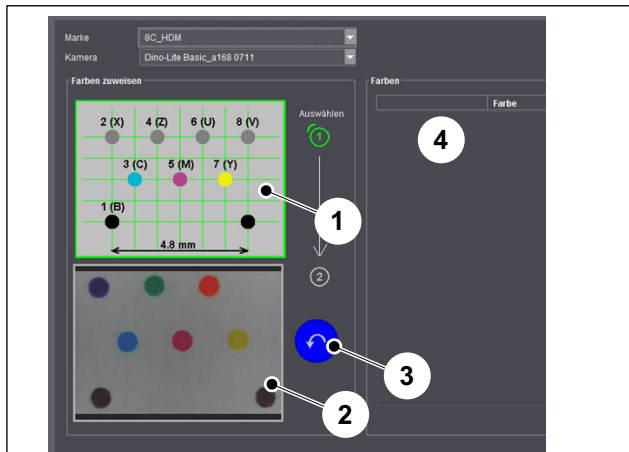

Fig. 12 Dialog box "Assign colors"
The dialog box **Assign colors** consists of the pattern (Fig. 12/1), the preview (Fig. 12/2) and the **Colors** table (Fig. 12/4).
- Click on a color dot in the pattern (Fig. 12/1). Then click on the corresponding color point in the microscope image (Fig. 12/2).
You can only assign color dots that were printed. The example in Fig. 12 shows a printed 7-color form. In this example, you cannot assign color 8 (X).
When you have assigned a color, the color is displayed in the **Colors** list (Fig. 12/4). In the case of special colors, the color dot in the pattern is not displayed in gray, but in the respective color.
9. You can undo a color assignment with the *Undo* button (Fig. 12/3).